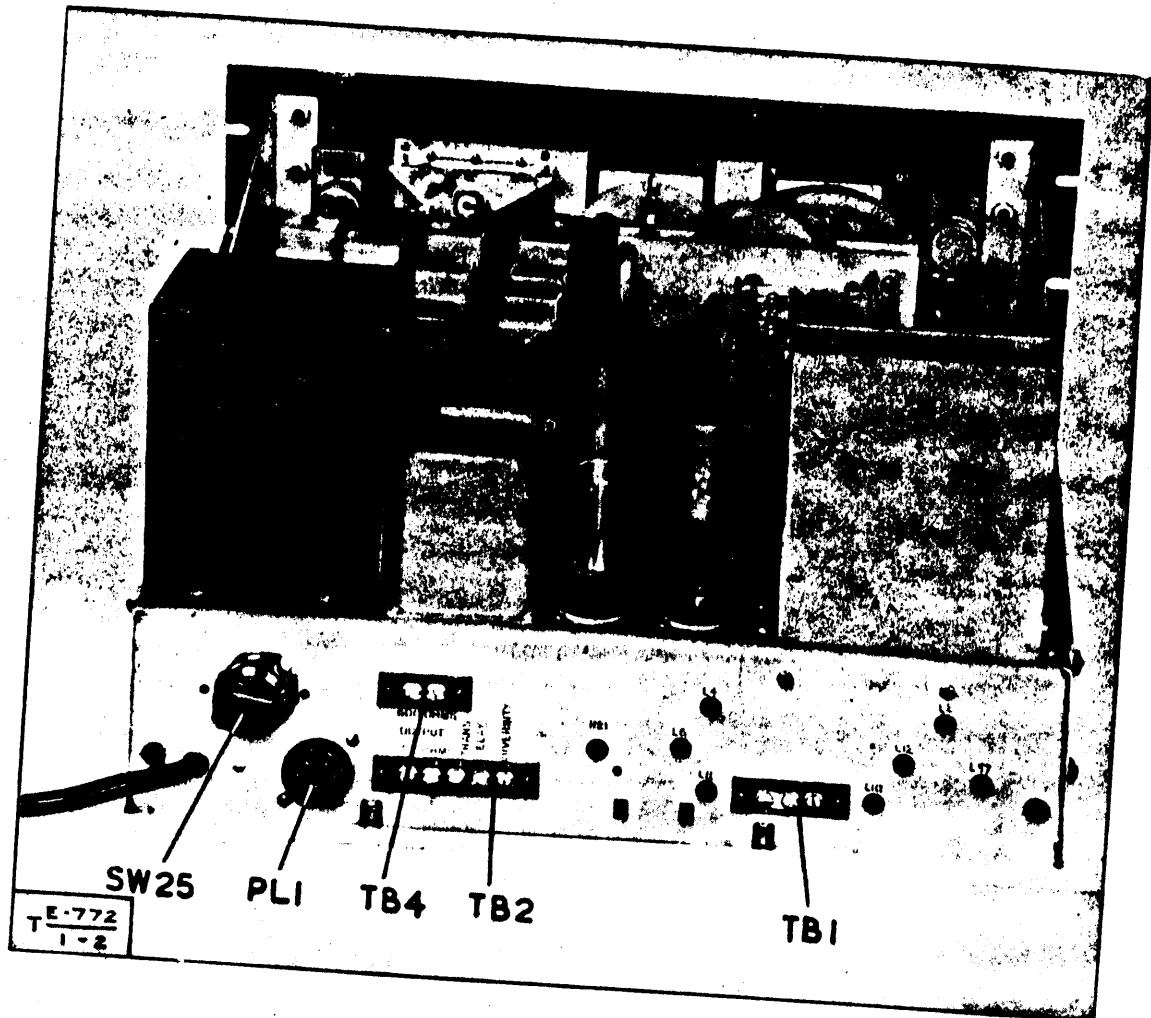

Fig 2 - AR88D - rear chassis view
10. A terminal marked DIVERSITY is provided on the rear of the chassis for diversity reception when required. A wire joining these terminals of two or more receivers having spaced aeriels will tend to reduce selective fading (see Tels A 017, A 172). Figs 2 and 3 show the rear chassis views of the AR88D and the AR88LF respectively.